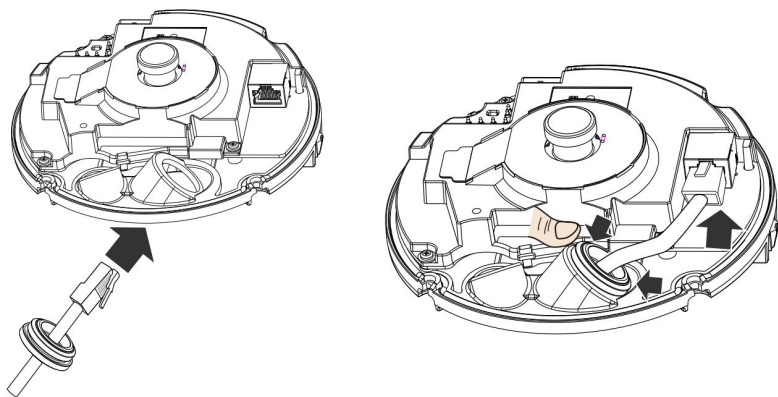

Figure 1-5
Step 5 Thread cables through the grommet. Reinstall the grommet and ensure it is properly seated, then make your connections. See Figure 1-5.